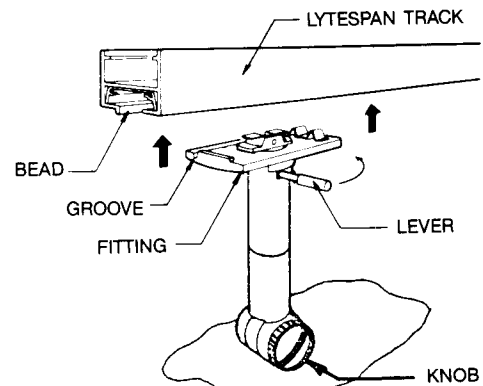

FIG. 1
1. Align BEAD on LYTESPAN TRACK and GROOVE in FITTING before inserting into LYTESPAN TRACK. See Fig. 1.
2. Position LEVER as shown in Fig. 1.